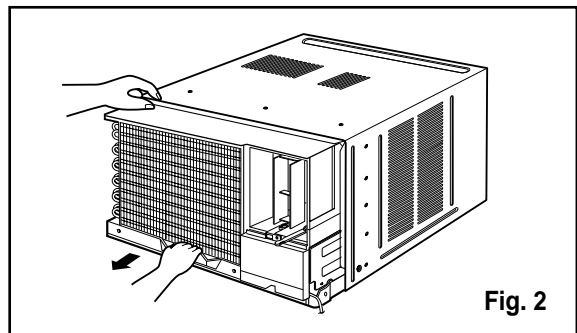

Fig. 2
1. Remove the rubber plug and slide the chassis out from the cabinet. (See Fig.2)
2. Slide the unit out from the cabinet by gripping the base pan handle and pulling forward while bracing the cabinet.(See Fig.2)